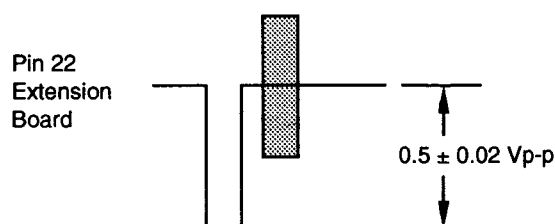

Fig. 4-2-14
- Adjust VR2 so that the Sync level of the Gen-Lock signal becomes  $0.5 \pm 0.02$  Vp-p as shown in the Fig. 4-2-14.